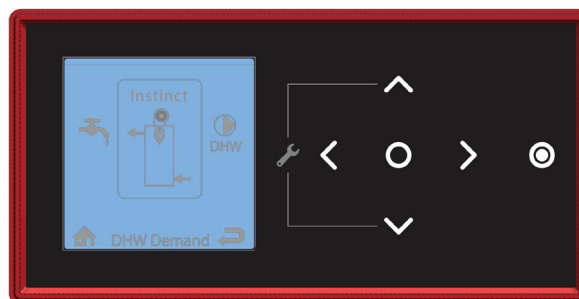

Fig. 5: CTRLMax Navigation Control
1. Press and hold the UP and DOWN buttons together see Fig. 5.
1. Touch simultaneously on the up and down soft keys for 3 seconds to access the functions for the installer. See Fig. 5.